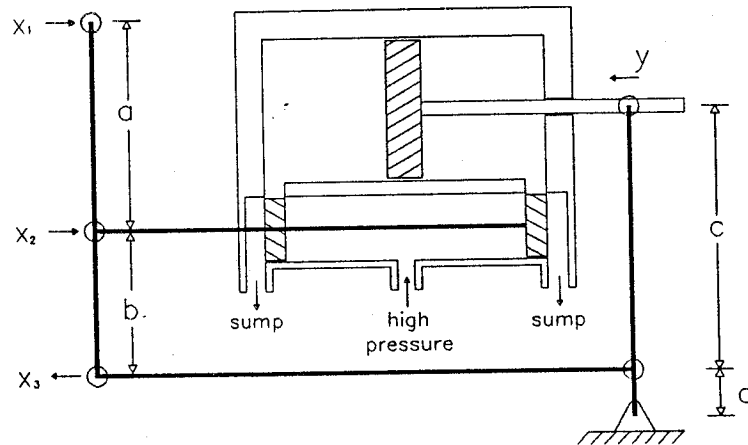

FIGURE 3
- (a)** Determine the phase margin for the system if the gain (K) is 120. Determine also the damping ratio at the above gain. (8)
- (b)** State the transfer function for a phase lag controller, sketch its frequency response, and determine the phase lag controller parameters required to yield a phase margin of 65 degrees in the above system. (12)
- 3(a) Determine the transfer function relating output displacement y_1 , to input displacement x_1 for the hydraulic servo system shown in Figure 3. The constant relating the flow rate into the power cylinder to spool valve displacement is C_1 . Load reaction and inertial effects may be neglected.
- (b) Write down the transfer function for a three term controller (PID) and sketch the frequency response. (8)